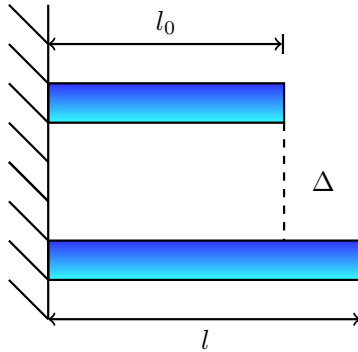

Figure 2: Undeformed and deformed element in the homogenous strain field in the bar.
2. Consider a homogeneous deformation corresponds to a strain field where the strain is the same at all points in a material body. Consider a prismatic, uniform thickness bar of initial length l_o undergoing a homogeneous deformation as shown in Fig. 2. Determine (a) deformation gradient, \mathbf{F} , (b) finite strain, \mathbf{E} and (c) linearized strain, \mathbf{E}_s (d) Demonstrate how the finite strain component reduces to linearized strain component through a numerical example.
Solution: (a) From Fig. 2, one can write that